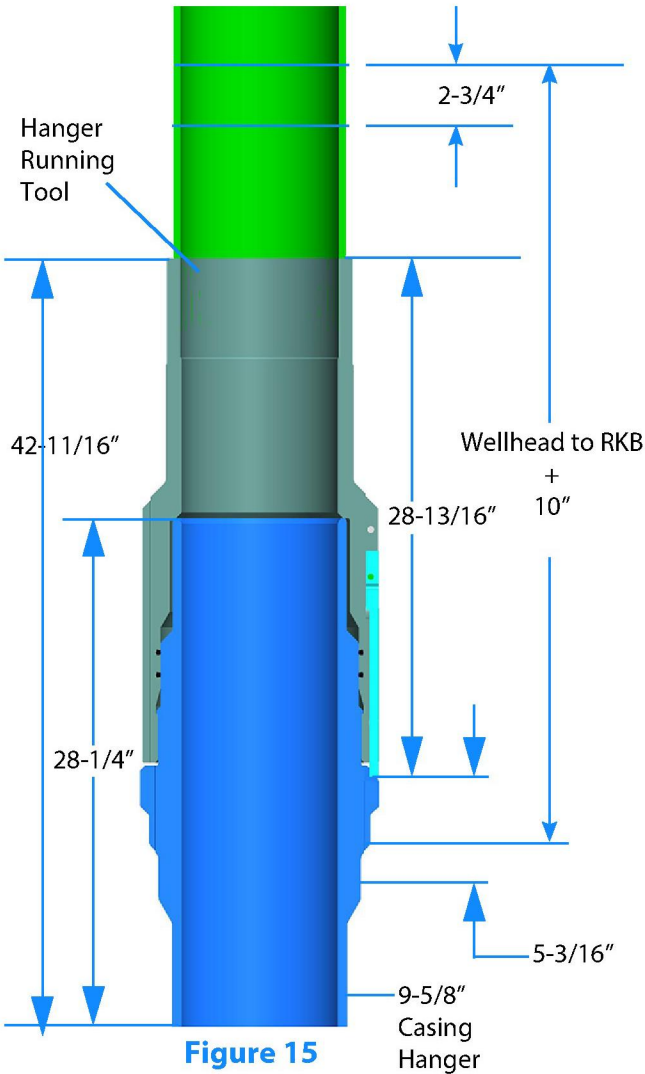

Figure 15
7. If not done already mark the landing point on the landing joint. The landing joint should be marked a distance of 'Wellhead to RKB' + 10" from the tapered shoulder of the casing hanger (see Figure 15).